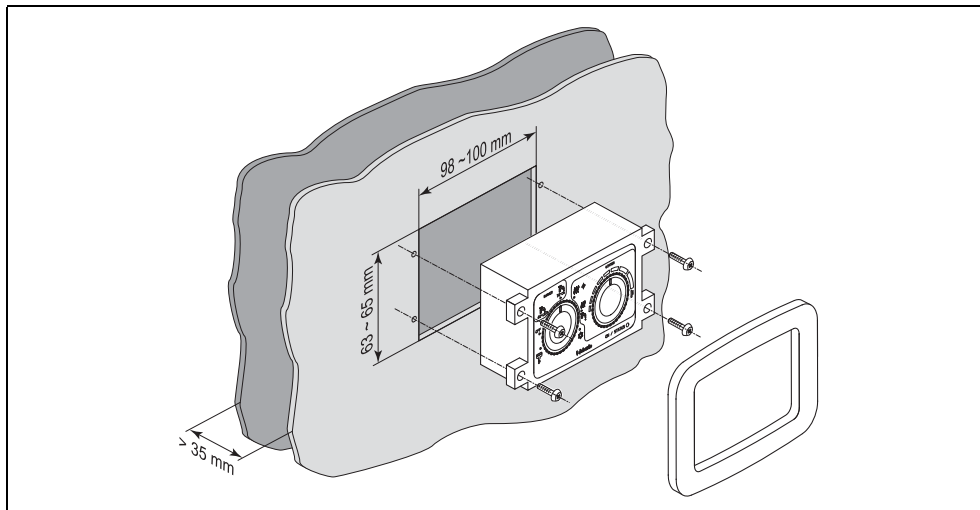

Fig. 48: Installing manual control panel
- Cut the aperture in the desired installation location (see Fig. 48).